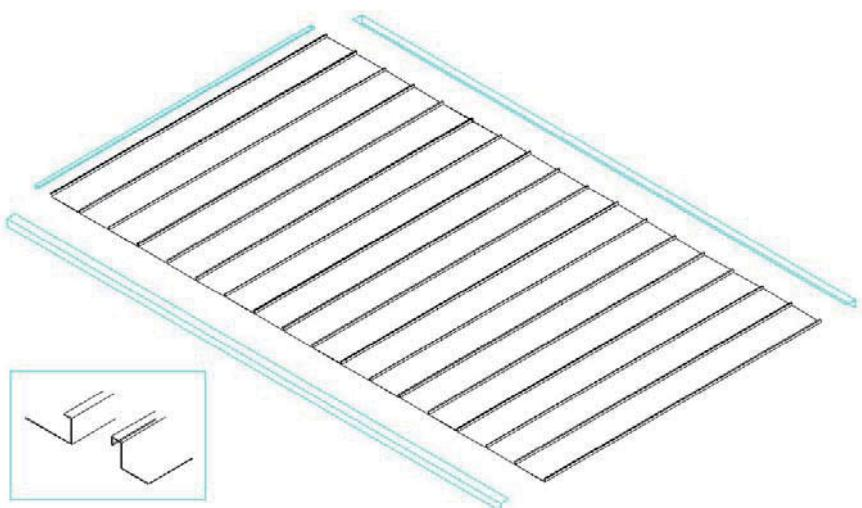

Fig. 2.8
4. Install the roof cover, connect one by one, then fix them on to the roof support beam with nails. And do some sealing with the transparent pattern shown in Fig.2.8